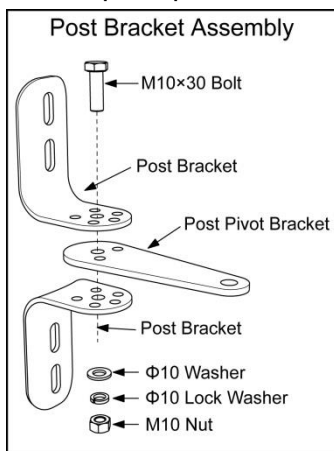

Figure 6
1. Insert the M10 x 30 bolt through the center hole of the post bracket and post pivot bracket as shown in Figure 6. Place a $\Phi 10$ washer, $\Phi 10$ spring washer and M10 nut on the bottom of the bolt and hand tighten so that the pivot plate can swivel.